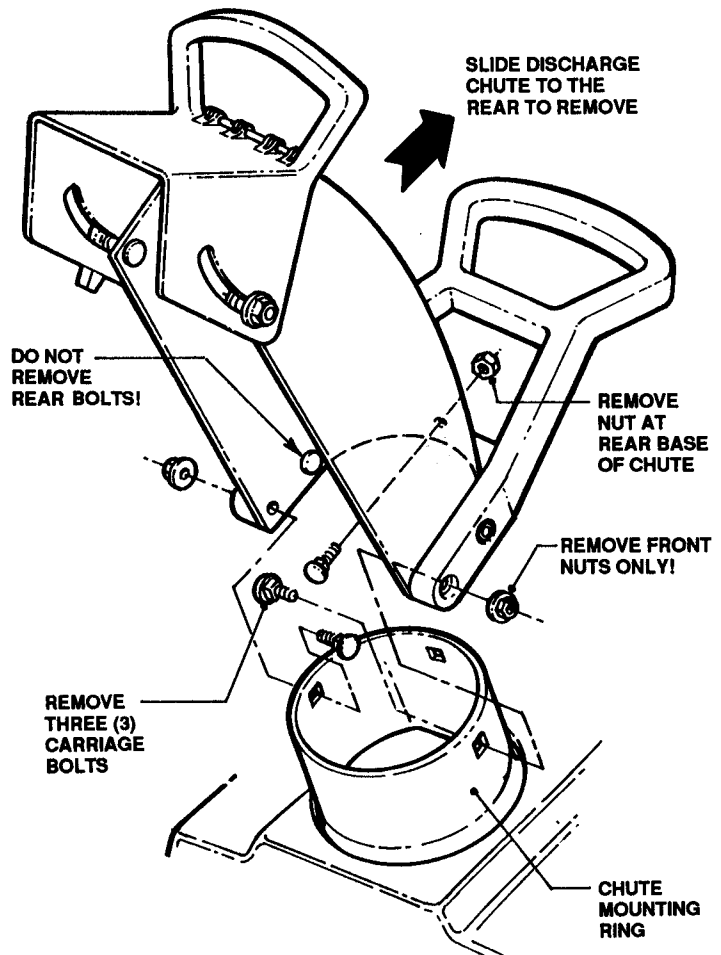

FIGURE 7.15
- (1) Remove Choke-Lever Knob and the two (2) screws securing Bottom Cover to Lower Handlebars. Slide Bottom Cover rearward to remove and expose interior of Engine Compartment.
- (2) Disconnect Spark Plug, Fuel Line, Primer Hose, and Electric Start Switch (if installed). Leave the Pull Start Rope engaged through the Top Cover and Pull Handle. The Pull Start Rope will be long enough to allow Top Cover removal and positioning.
- (3) Remove the two (2) nuts at the **FRONT** Base of the Discharge Chute and remove the nut at the Rear Base of the Chute. Remove the three (3) carriage bolts from inside of the Chute Base, and slide the Chute/Handle/Deflector Assembly to the rear of the unit to remove. See Figure 7.15.